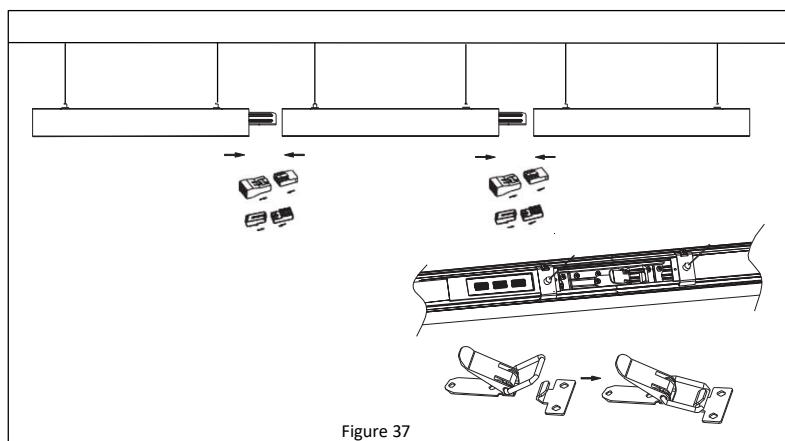

Figure 37
9. Make electrical connection between fixtures with male-female connectors. *See Figure 37.*